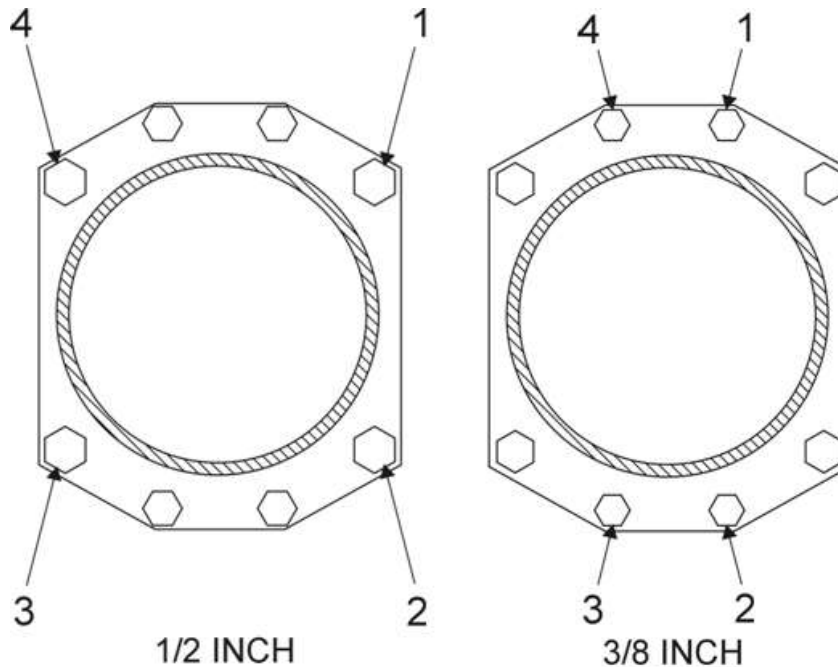

Figure 40
- (1) Torque the 1/2 in. nuts to 25 ft.-lb (34 Nm) in the sequence shown in Figure 40.
- (2) Torque the 1/2 in. nuts to 50 ft.-lb (68 Nm) in the sequence shown in Figure 40.
- (3) Torque all 3/8 in. nuts to 25 ft.-lb (34 Nm) in the sequence shown in Figure 40. The torque sequence for these nuts is optional.
- (4) Use the same sequence shown in Figure 40, complete a torque check to 50 ft.-lb. (68 Nm) for all 1/2-in. nuts on the cylinder base studs.
- (5) Tighten both ends of the free thru-studs at the same time at the all locations. Make sure all thru-studs have at least 1-1/2 threads above attaching nuts at both ends.
- (6) Make sure all cylinder base hold-down nuts are torqued. Complete a torque check of all nuts on the cylinder base using the torque wrench to apply the appropriate torque on each nut for 5 seconds. If the nut does not turn, it is correctly torqued.
- (7) Apply torque seal to all cylinder base hold-down nuts where the nut contacts the barrel.